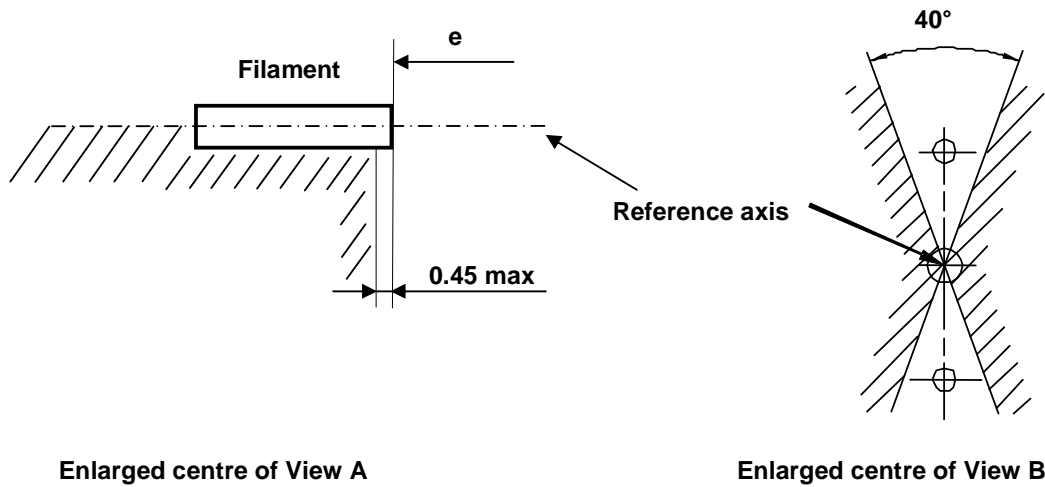

Figure 2 – Metal free zone 3/
- 3/ No opaque parts other than filament turns shall be located in the shaded area indicated in Figure 2. This applies to the rotational body within the angles  $\alpha_1 + \alpha_2$ .